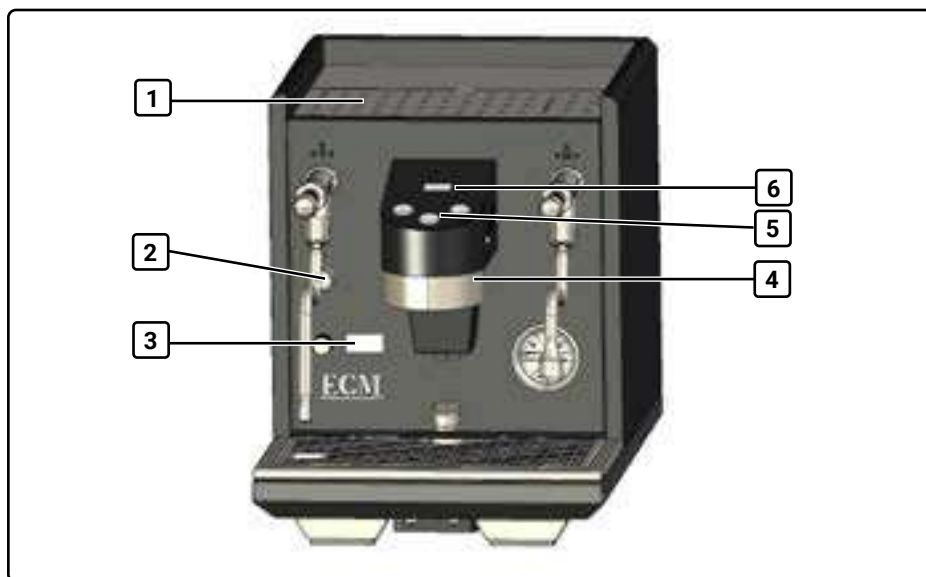

Fig. 9 Front view
1. Open the water tank flap (1, Fig. 9) and remove the water tank and clean it thoroughly (see Chapter 11.5, "Cleaning the water tank").
4. Switch on the machine using the on/off button (3, Fig. 9).
- ✓ The LED ring of the on/off button lights up and the "Fill" icon appears on the brew group display (6, Fig. 9).
1. Place a receptacle under the brew group (4, Fig. 9). The opening of the receptacle should be at least as big as the brew group.
2. Press one of the brew buttons (5, Fig. 9) (see Chapter 5.2.3, "Brew buttons").
1. Switch off the heated-up machine using the on/off button (3, Fig. 9).
6. Wait until the brew temperature is shown on the machine display (2, Fig. 9).
8. With the machine switched on, empty the remaining quantity of water via the brew group (4, Fig. 9).
2. Switch on the machine using the on/off button (3, Fig. 9).
2. Press one of the brew buttons (5, Fig. 9) (see Chapter 5.2.3, “Brew buttons”).
- Press one of the brew buttons (5, Fig. 9) (see Chapter 5.2.3, "Brew buttons").